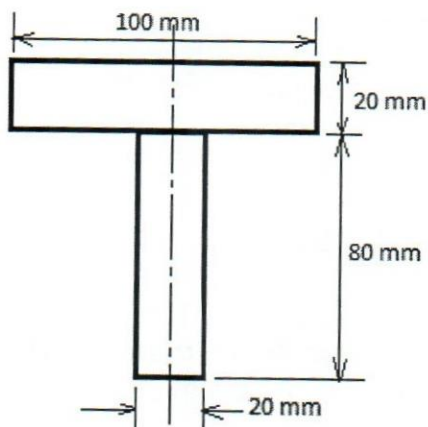

Figure-2
Q.04 The shear force acting on a section of a beam is 50 kN. The section of the beam is of T-shaped of dimensions $100 \text{ mm} \times 100 \text{ mm} \times 20 \text{ mm}$ as shown in **Figure-2**. The moment of inertia about the horizontal neutral axis is $314.221 \times 10^4 \text{ mm}^4$. Calculate the shear stress at the neutral axis and at the junction of the web and the flange.